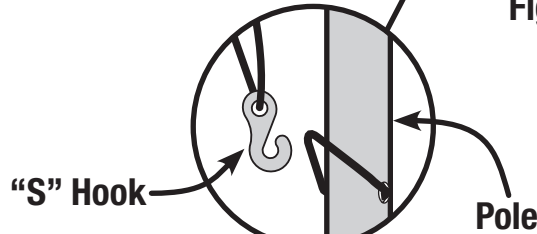

Fig. 10
- Connect the elastic loops with "S" hooks to the leg poles. (Fig. 10)